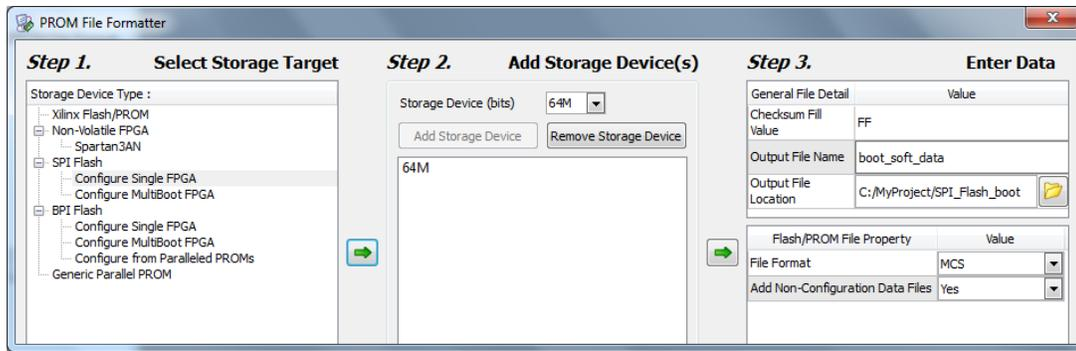

Fig. 10. PROM File Formatter dialog box.
2) In the PROM File Formatter dialog box (figure 10) :